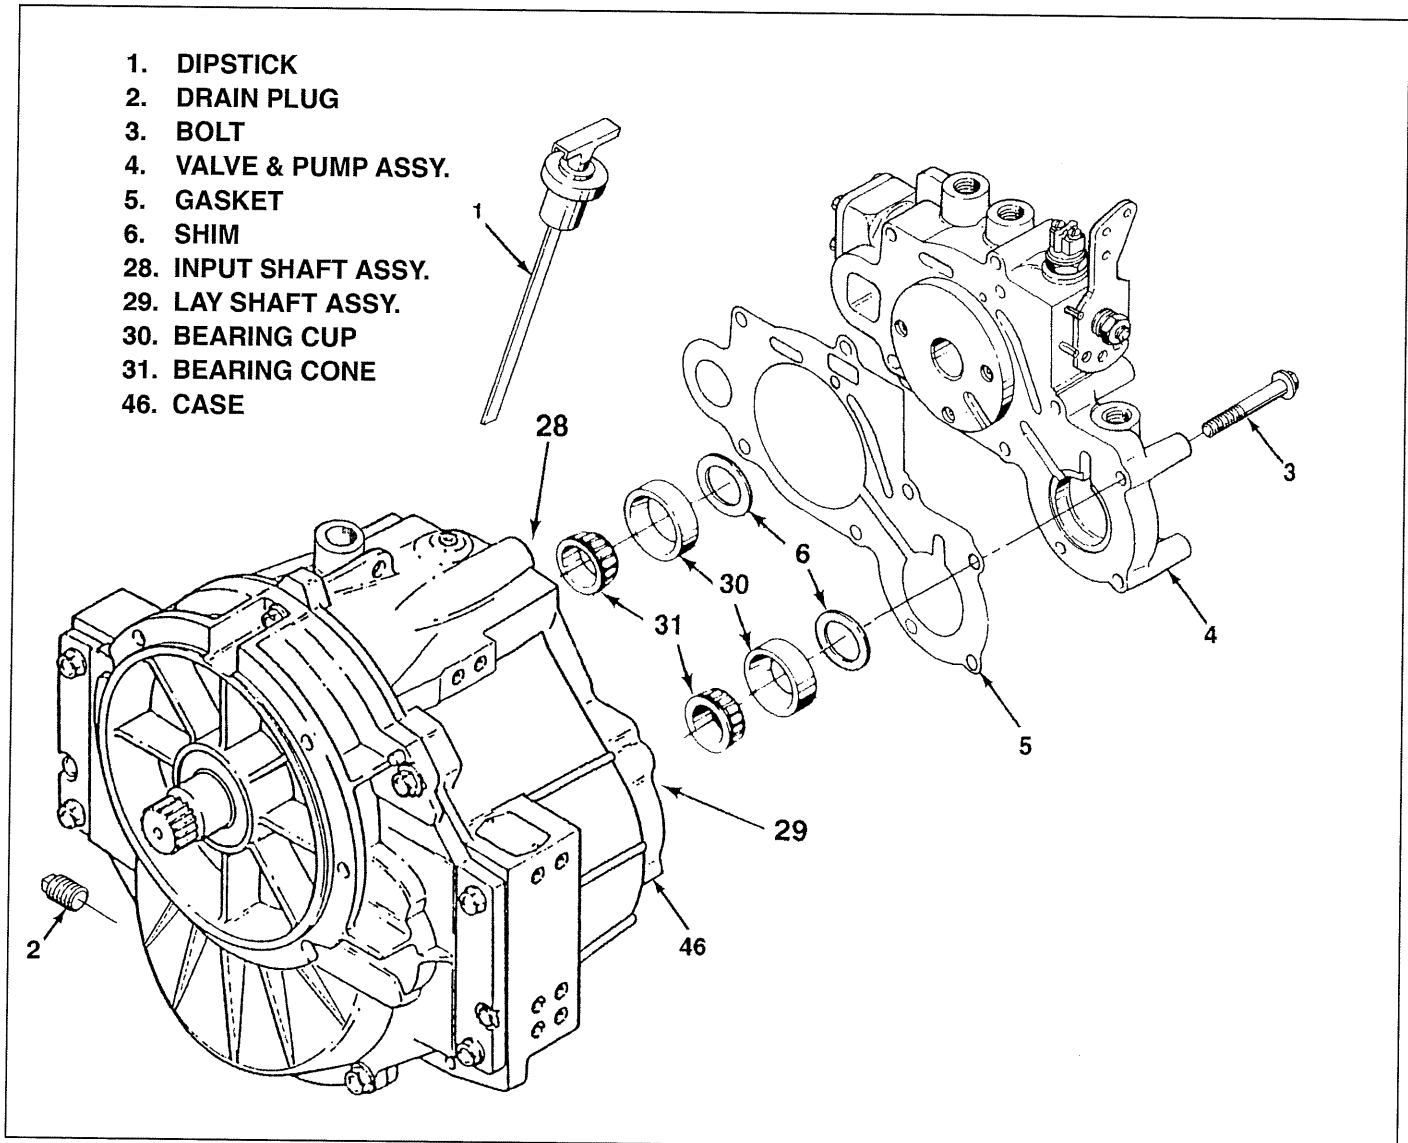

Figure 3-1: Valve and Pump Housing Assembly
If trouble is isolated to the control valve and pump assembly and there is no other reason to remove the transmission from the boat, it is possible to replace the valve and pump assembly with the transmission installed in the boat. However, when removing the valve and pump assembly (see figure 3-1), extreme care must be taken to capture and tag the exact number of shims (6) used at each location. If shims drop out or become
(see figure 3-1) Remove valve and pump assembly as follows:
3-7 REMOVAL OF VALVE AND PUMP HOUSING ASSEMBLY With the transmission held in a suitable fixture and in its approximate installed position, begin disassembly as follows (see figure 3-1):